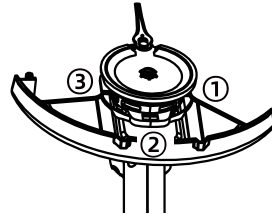

Fig. 2
- a. Turn the safety guard and trimmer head to the back side. Align and insert the left and right buckles of the safety guard into the corresponding grooves on the trimmer head. At this point, the middle buckle is aligned with its groove but not yet fastened. (Fig. 2)